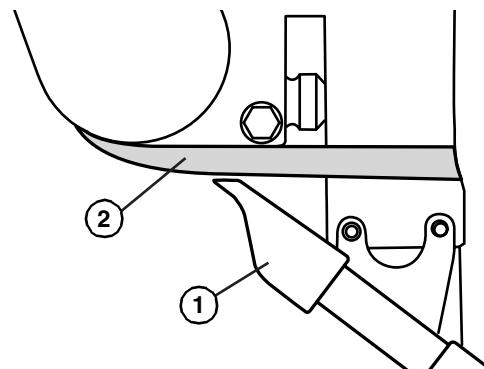

Figure 23
Apply minimal pressure between the scraper (Figure 23, item 1) and the belt (Figure 23, item 2).